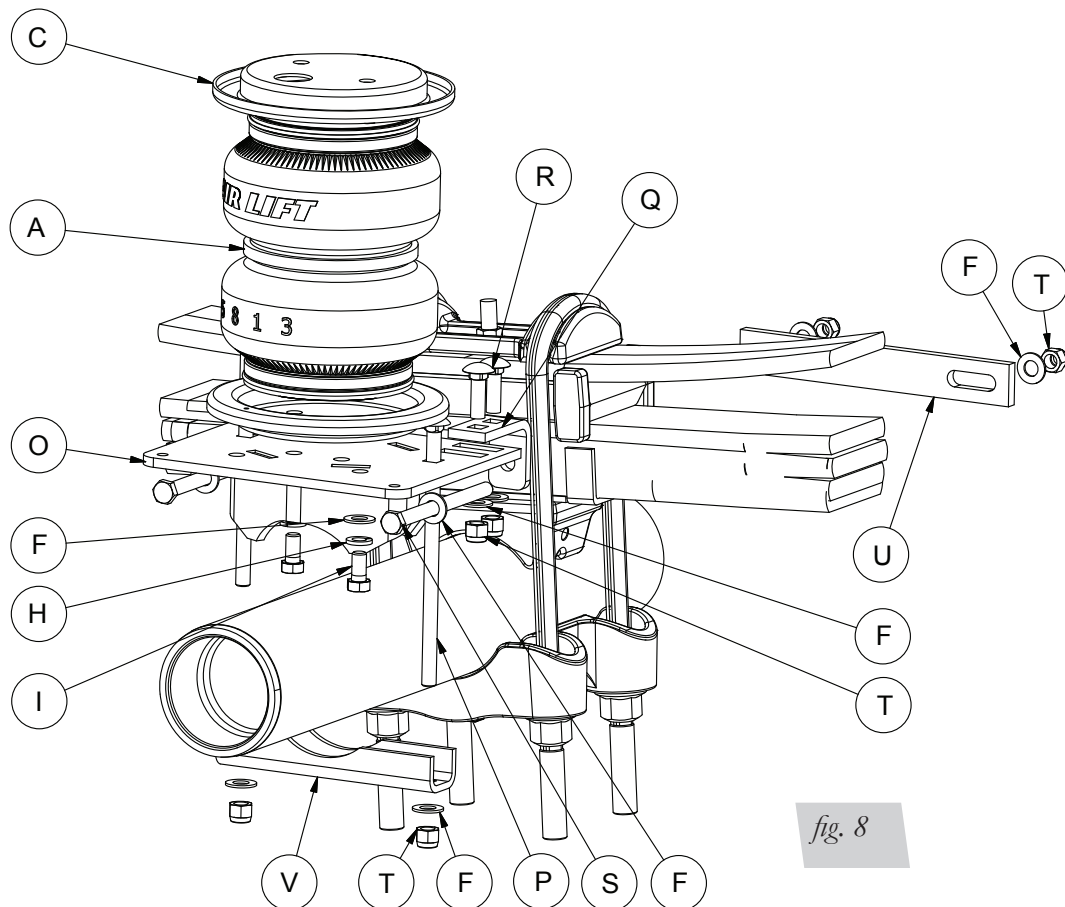

fig. 8
1. Insert a long 3/8" bolt (S) and flat washer (F) through the round hole of the four hole locating bracket (Q) (fig. 8).
2. Attach the four hole locating bracket (Q) on the top of the lower bracket and through the slots, with two 3/8" carriage bolts (R), flat washers (F) and nylon lock nuts (T) (fig. 8). One goes forward and one goes behind the axle on the leaf spring side. Leave loose at this time.
4. Using the long 3/8" bolt (S) and flat washer (F) previously installed on the four hole locating bracket, insert them into the spring clamp bar (U) on the opposite side of the leaf spring assembly (fig. 8). Cap with 3/8" flat washer (F) and nyloc nut (T). Leave loose at this time.